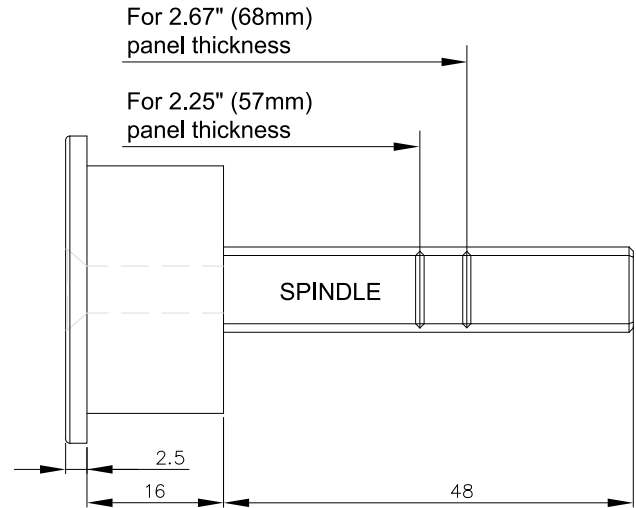

Fig. 1
3. Determine spindle length requirements (Fig. 1).